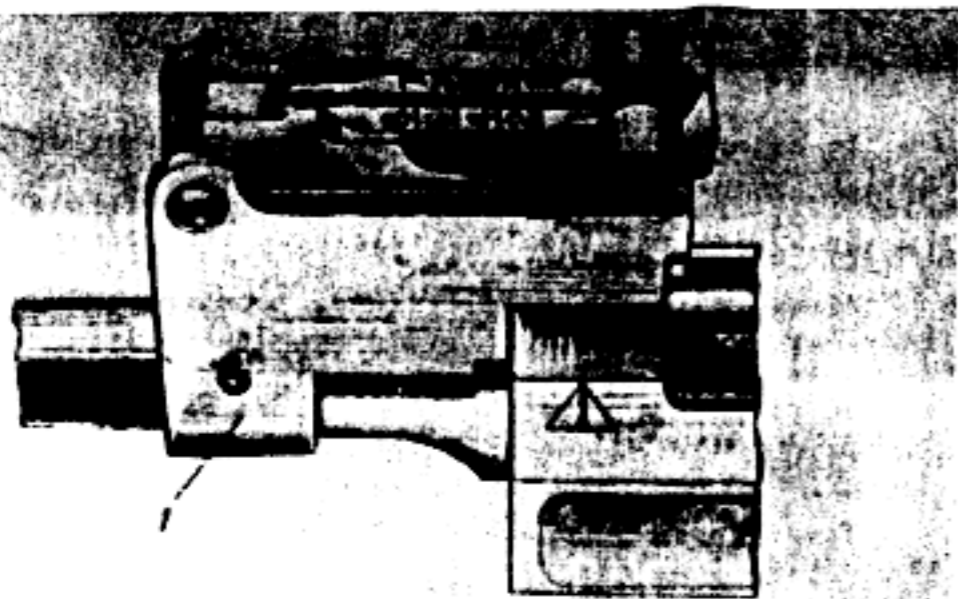

Figure 18. Rear sight, assembled and disassembled.
The rear sight (fig. 18) consists of a base (1), on which there are sectors; sight leaf (2), sight leaf spring (3), slide (4); slide catch (5) and spring (6).
The sight leaf (fig. 18) has odd numbers inscribed on the right side, which correspond to ranges of 100 to 700 meters, and on the left side there are inscribed numbers 2 to 8, which correspond to ranges of 200 to 800 meters. On the left side of the sight leaf is the letter "P".\* This graduation is the constant (battle) setting of the sight; with this setting, the slide is located as far to the rear as possible.